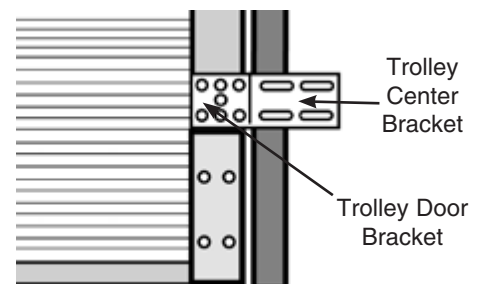

Figure 6
Install the trolley center bracket to the trolley door bracket with (2) 5/16" x 3/4" carriage bolt and 5/16" flange nuts. Hand tighten the nuts. (Figure 6).